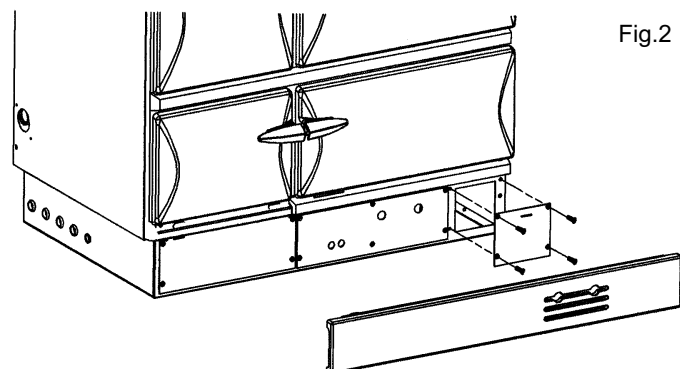

Fig.2
- (c) Fit blanking plate over air vent on front right hand side after removing the air inlet plate. (see fig.2).